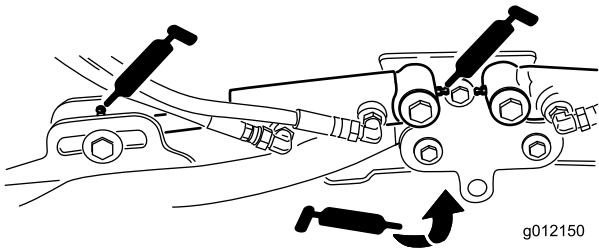

Figure 45
- Cutting-unit lift-arm cylinders (2 each) (Figure 45)
- Lift-arm pivots (1 each) (Figure 45)